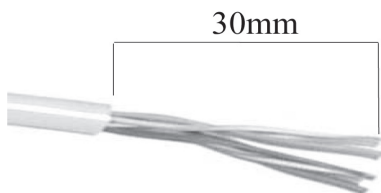

Figure 2.
A. To connect a cable to the Unshielded Patch Panel, first take the end of the cable wiring and strip approximately 30 mm off the cable jacket. (Figure 2)